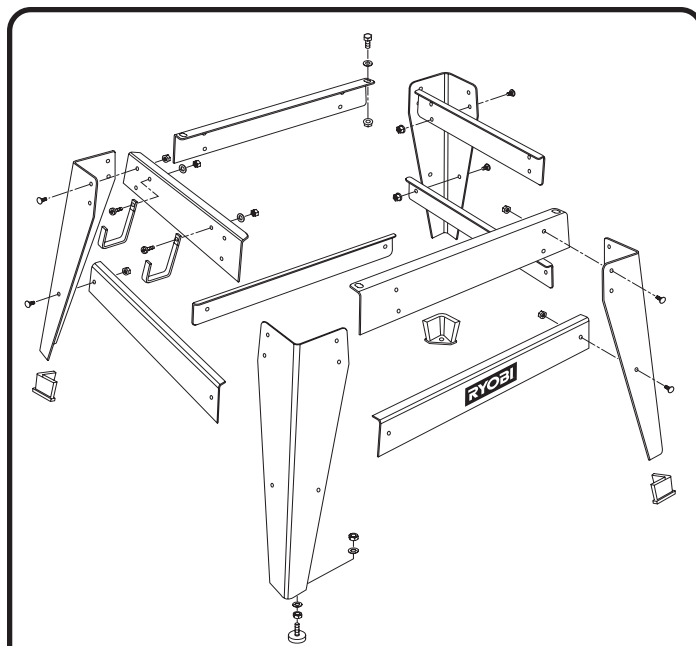

Fig. 7
See Figures 7 and 8.
- Secure storage brackets to upper braces of leg stand as shown in figure 7.